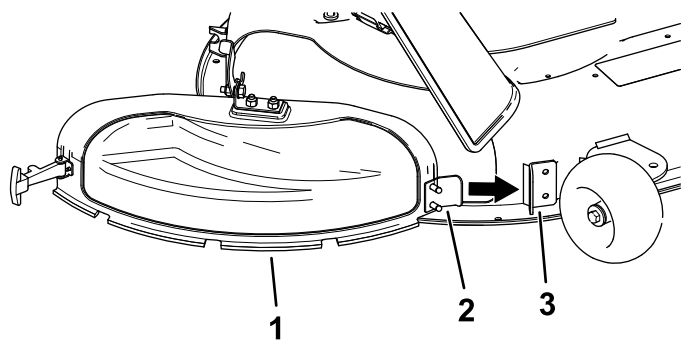

Figure 2
2. Angle the metal tab on the discharge cover into the slot in the bracket welded to the mower deck (Figure 2).